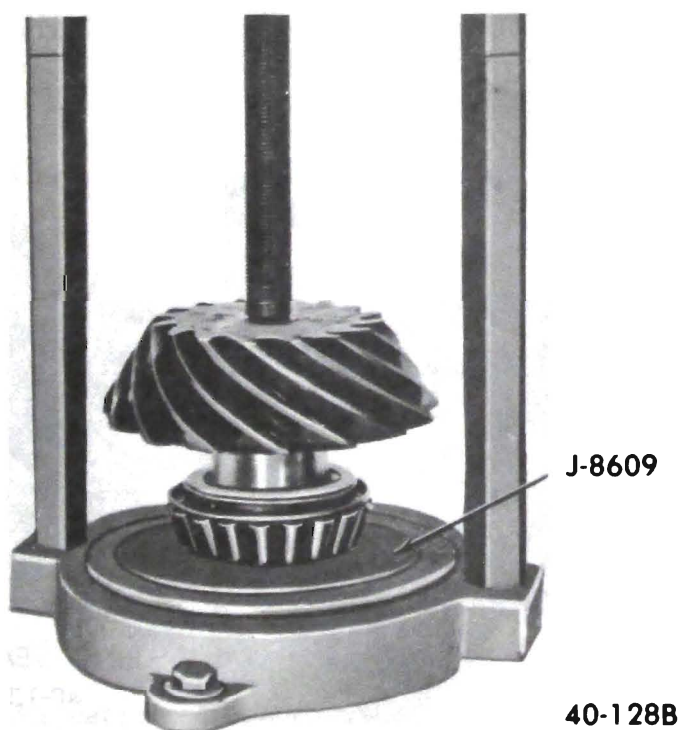

Figure 40-133 - Installing Rear Pinion Bearing
14. Position correct shim on pinion shaft and install rear pinion bearing. Use installer (J-8609) on 8 1/2" ring gear axles or installer (J-6377-01) on 9 3/8" ring gear axles. See Figure 40-133.